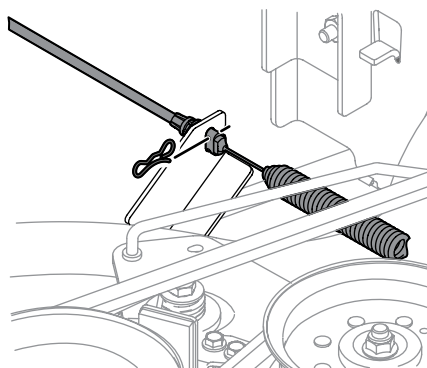

Figure 4-15
- Carefully remove the PTO cable from the rear of the cutting deck by removing the bow-tie clip which secures it. Remove the spring from the deck idler bracket. See Figure 4-15.